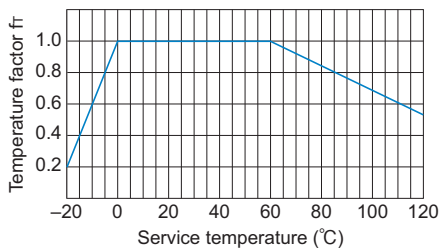

Fig.2 Temperature Factor
If the temperature of the screw nut exceeds the normal temperature range, the seizure resistance of the nut and the strength of the material will decrease. Therefore, it is necessary to multiply the dynamic permissible thrust (F) by the corresponding temperature factor indicated in Fig.2.
f_t : Temperature factor (see Fig.2)